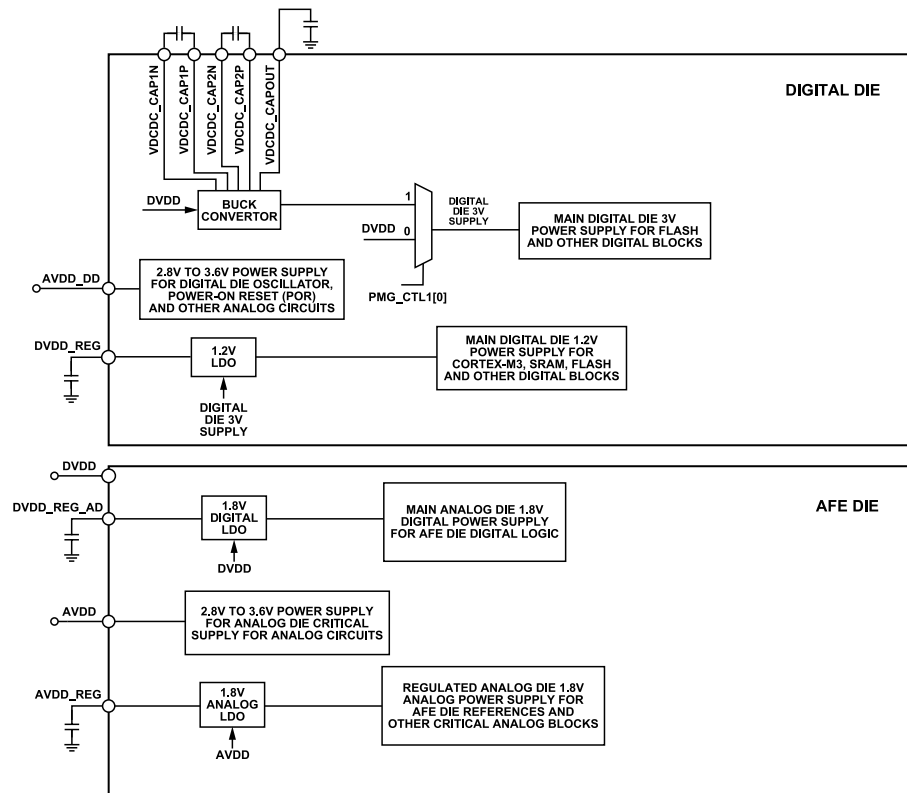

Figure 3. Power Supply Architecture Block Diagram
- ▶ Buck converter for active mode, which requires external flying capacitors, as shown in the Figure 3. The buck converter is disabled by default. For optimal performance of the analog peripherals, leave the converter disabled.